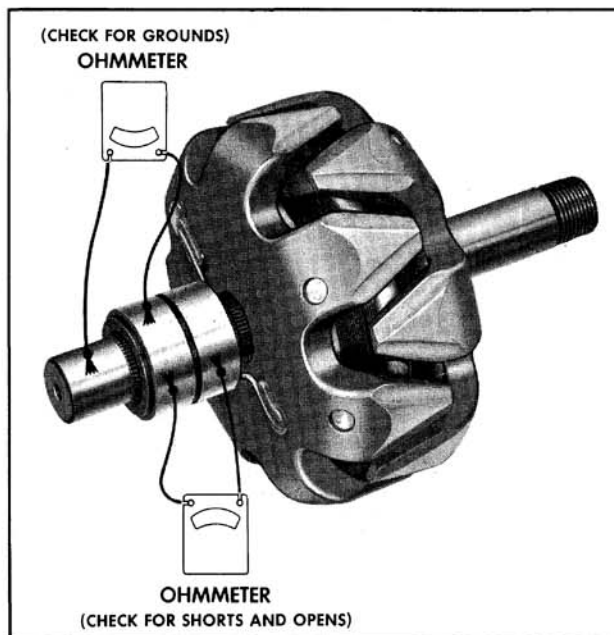

Fig. 13-34 Checking Rotor
is low, the field winding is grounded and the rotor must be replaced. (Fig. 13-34)
- B. To check rotor for opens, connect the test lamp or an ohmmeter lead to each slip ring. If the test lamp does not light or no reading can be obtained on the ohmmeter, the field winding is open and the rotor must be replaced. (Fig. 13-34)